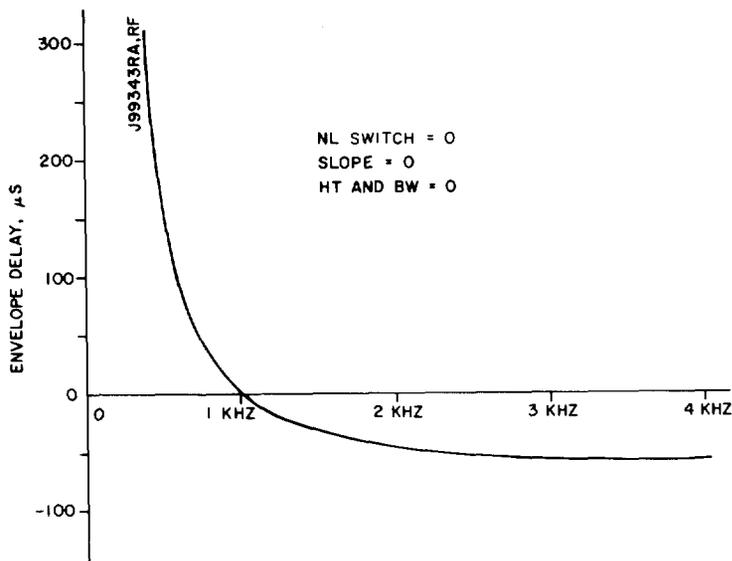
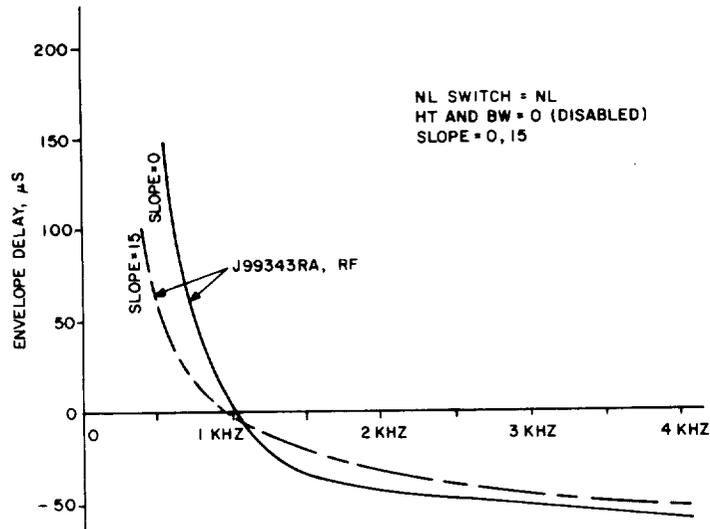
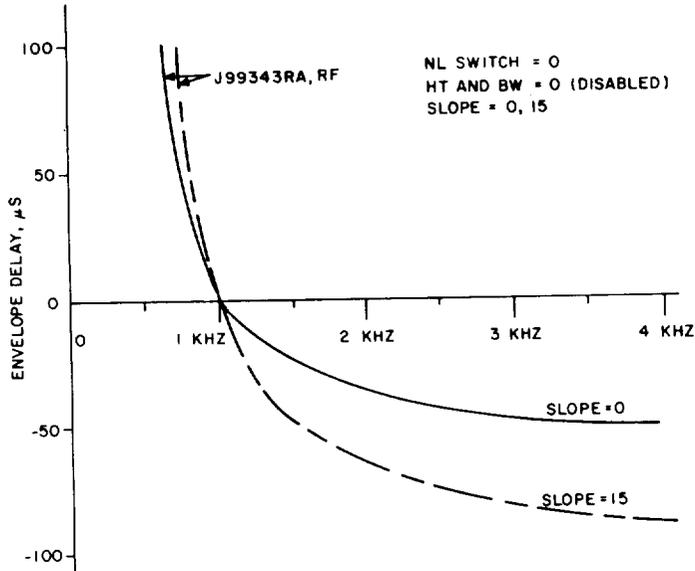

Fig. 12—Envelope Delay Distortion of J99343RA, RF Repeaters—Equalizer Disabled
Fig. 13—Envelope Delay Distortion of J99343RA, RF Repeaters—Slope = Variable,
Fig. 14—Envelope Delay Distortion of J99343RA, RF Repeater—Slope = Variable,
6.03 Figures 12 through 16 give the envelope delay distortion (EDD). Figure 12 shows the EDD for the repeater units with the equalizer disabled. Figure 13 shows the EDD for various SLOPE settings with the NL switch set to interface nonloaded cable. Figure 14 shows the EDD for the same SLOPE settings with the NL/L switch set to interface loaded